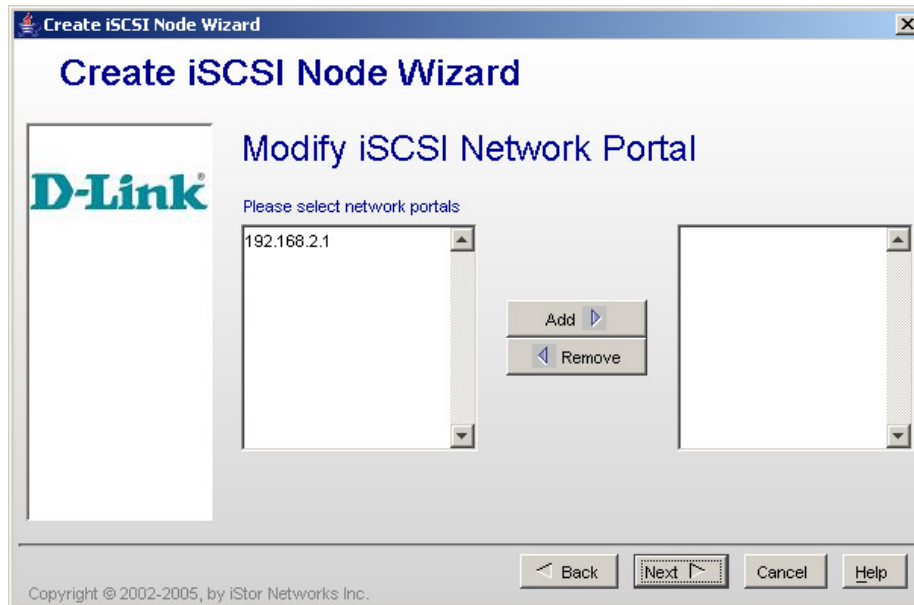

Figure 5-32 Create iSCSI Node Wizard – iSCSI Network Portal Screen
5. Accept the default settings in the **Session Settings** and **Connection Settings** tabs and click **Next**. The Modify iSCSI Network Portal screen appears (see Figure 5-32).